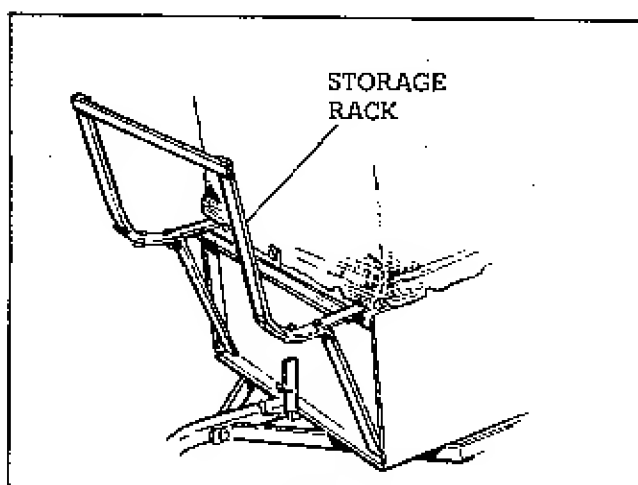

FIGURE 13
4. The storage rack is assembled and hung onto the front of the cart as shown. No hardware for mounting is required. (See Figure 13).